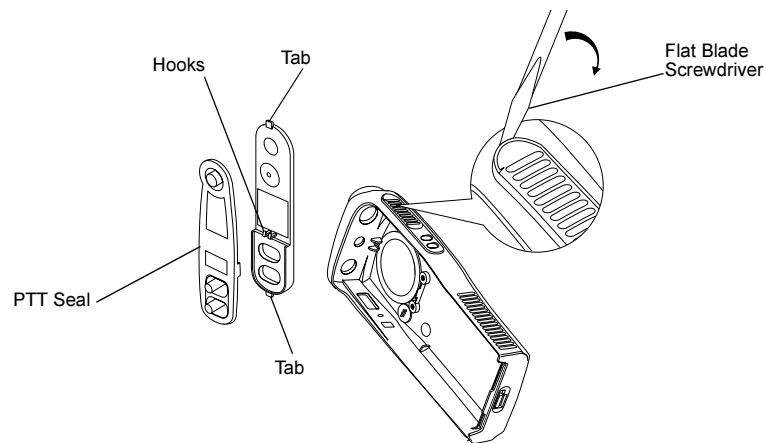

Figure 2-6 PTT Removal
- PTT Disassembly (Figure 2-6)
1. If required, the PTT (Figure 2-6) can be disassembled using a small screwdriver, as follows: